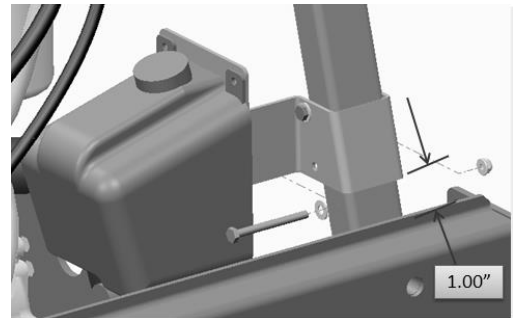

Figure 2
1. Washer Bottle bracket is mounted to the channel post on LH side of the Radiator, below the over flow bottle, as shown in Figure 2. Use the hardware specified in Figure 1.